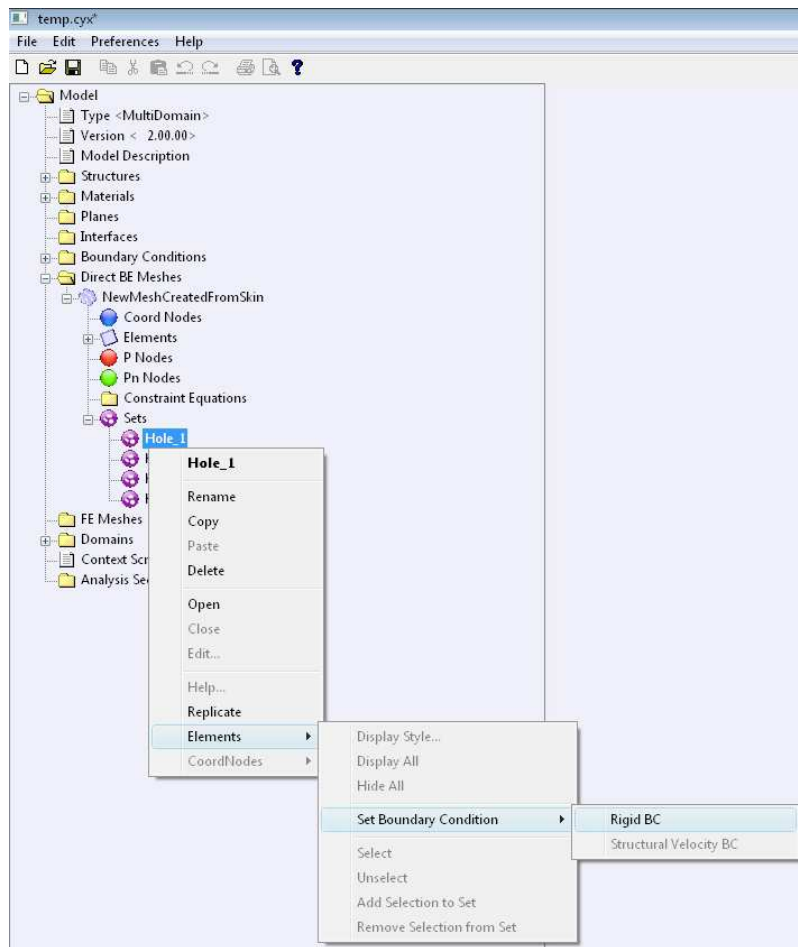

Figure 19: Apply boundary conditions through sets.
- Right-click on **Holes\_1** and select: **Elements > Set Boundary Condition > Rigid BC** as shown in Figure 19.